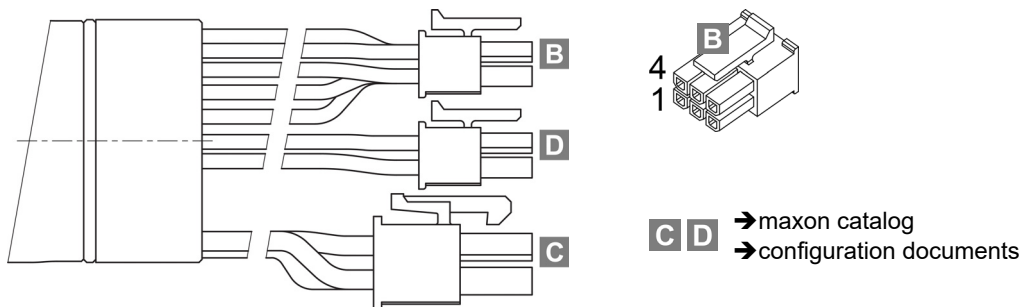

Figure 19 ENX 13...22 COMM (thermistor version) – Cable Plugs
- Hall sensors with plug / Motor with plug / NTC with plug (→Figure 19)